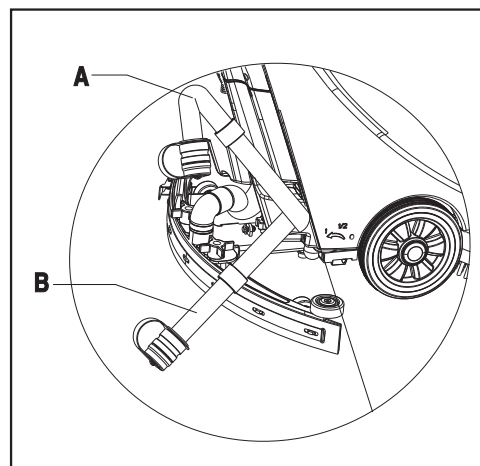

FIGURE 8
2. Raise the squeegee assembly (14).
4. Grasp the handle (2) and tilt the machine backward until the guide wheel touches the floor.
5. Remove the drain hose from the clip, bend the top end of draining hose (A, Figure 8), and then remove the drain hose cap. Lower the hose to a low level or on the ground to drain the water. Alternatively, place drain hose to a low position or on the ground to make the water outlet face downward (B, Figure 8), and then twist open the drain cap to drain the wastewater in the tank. After draining is completed, rinse the inside of recovery tank with clean water
When draining the wastewater, the drain hose must be folded or lowered to a lower position (Figure 8 A or B), and the cap removed for wastewater to drain. Do not allow the opening of the drain hose to face upward, as it could get wastewater on the operator.